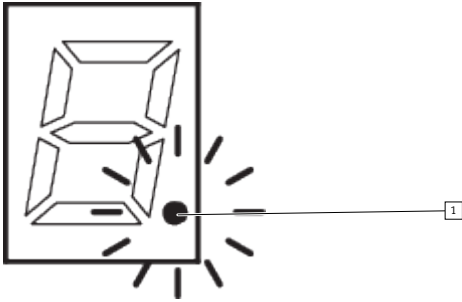

Fig. 11: Controller identification
- The red LED 'Device' light (➔ 5.9.2 LED display components) and the dot on the 7-segment display (➔ Fig. 11) of the identified controller start flashing.